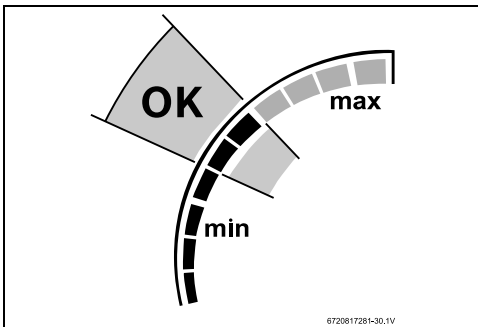

Fig. 45 Power bar middle point
- ▶ Verify if power bar level is at middle point, see fig. 45.
- ▶ Verify if power by level is at middle point, see fig. 45.